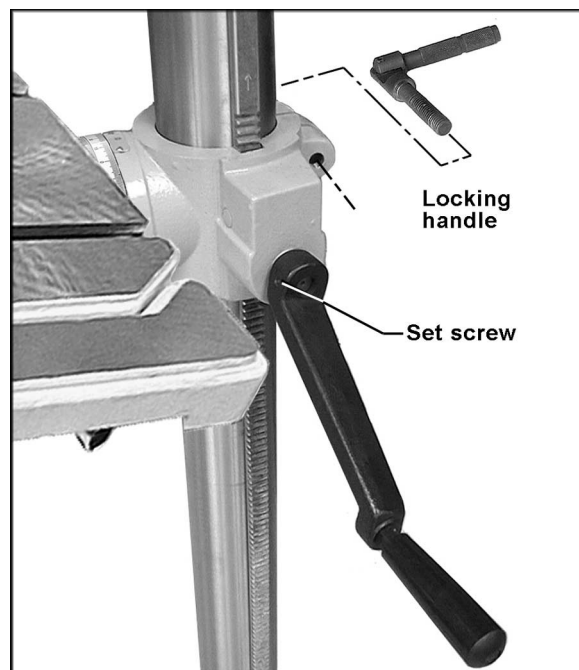

Figure 4
3. Slide the large handle onto the spindle of the table bracket (Figure 4), and tighten the set screw in the handle with a 3mm hex wrench. Crank the handle counterclockwise to lower the table bracket down the column.
5. Screw the locking handle into the table bracket (Figure 4) and tighten the locking handle to secure the table bracket's position on the column.
Loosen the column locking handle (see Figure 4). Turn large handle to raise or lower the table along the column rack. Re-tighten the column locking handle before attempting to drill.
- Loosen the column locking handle (see Figure 4).